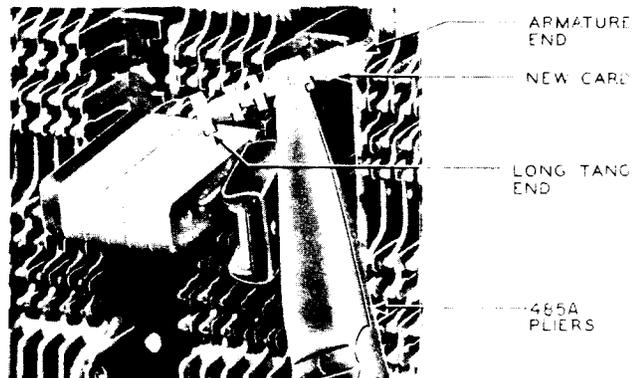

Fig. 10—Grasping a New Card for Replacement
(1) Never reuse a card since each insertion and removal of a card tends to round the edges, thereby causing the card to fit loosely.
(2) Grasp a new card near the center with the KS-7665 (485A) pliers with the armature end of the card toward the right and the long tang in a direction away from the pliers, as shown in Fig. 10.